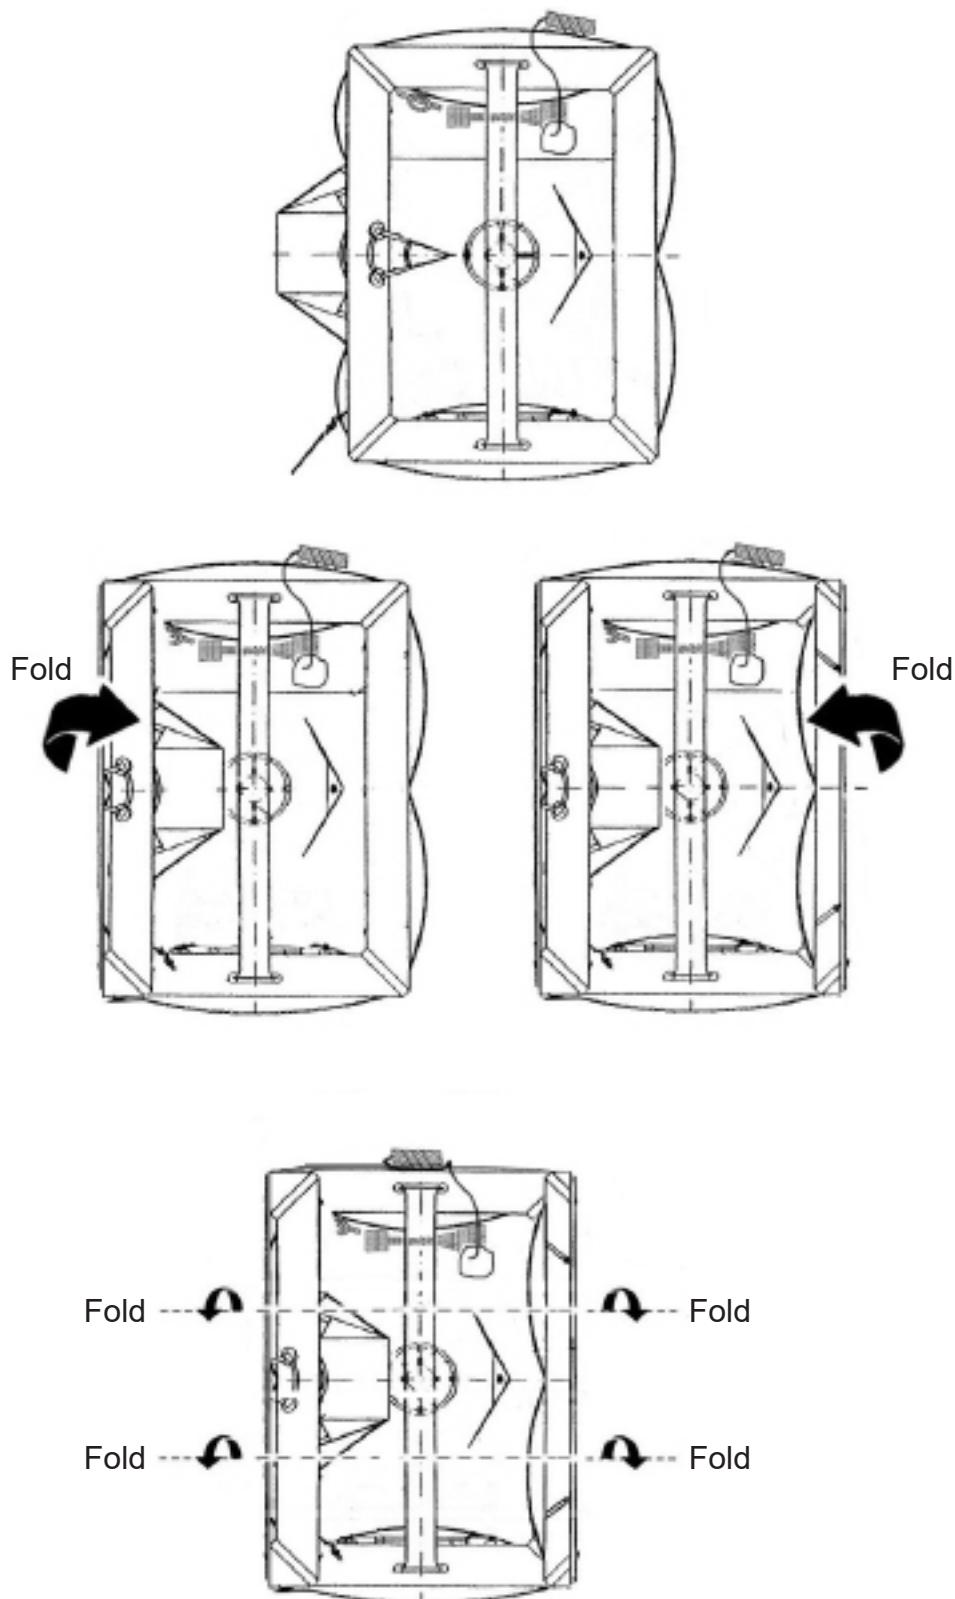

FIGURE A7-21
2.46.3 Flat-Pack container; Refer to FIGURE A7-21.